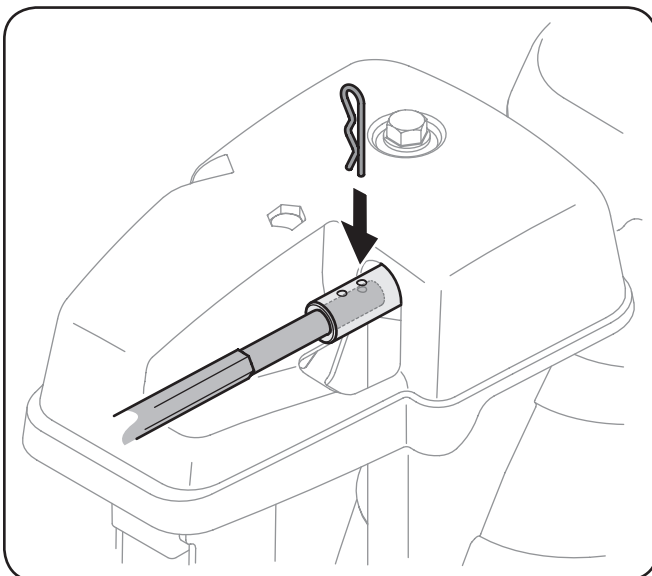

Figure 3-9
7. Push the chute control rod toward the control panel until the hole in the rod lines up with the hole in the chute control input closest to the chute control head and insert the cotter pin. See Figure 3-9.